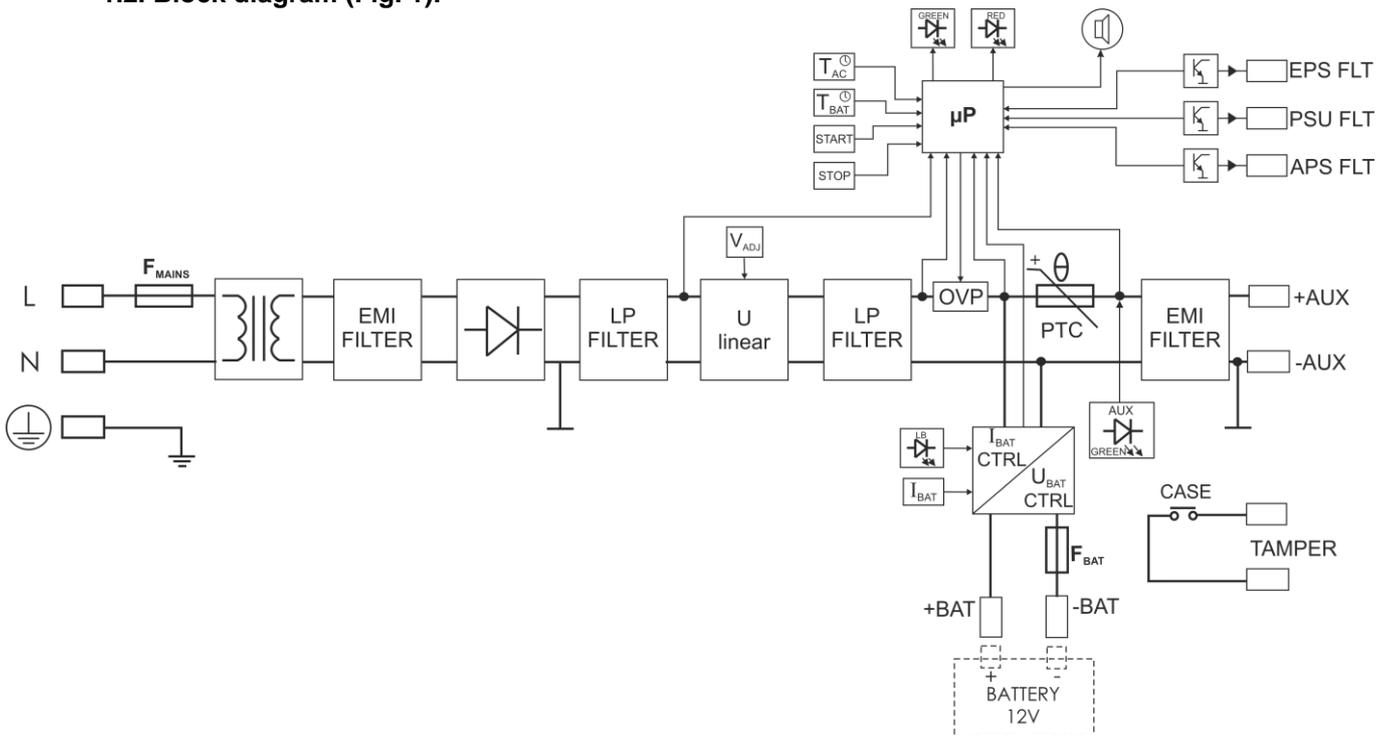

Fig. 1. Block diagram of the PSU.
**1.2. Block diagram (Fig. 1).**